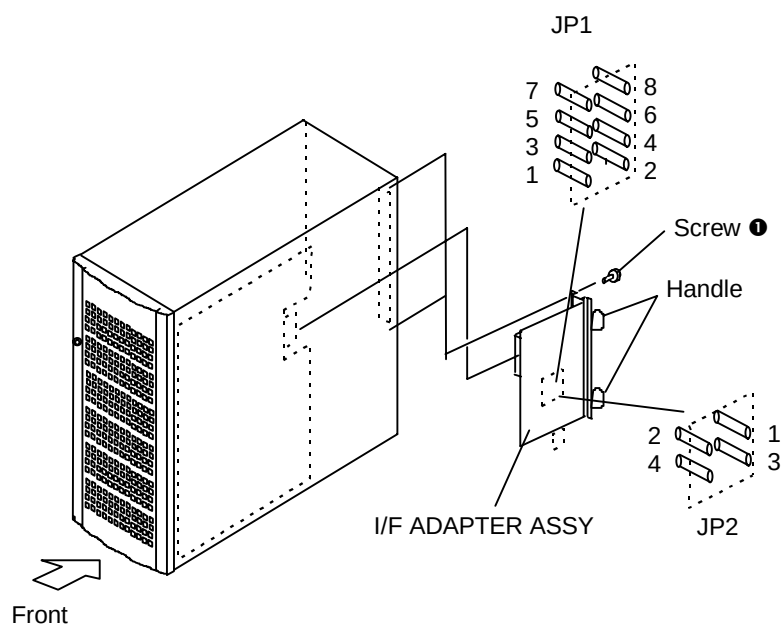

Figure 3.2.7 Setting I/F ADAPTER ASSY
3.2.7 Setting I/F ADAPTER ASSY (See Figure 3.2.7.)